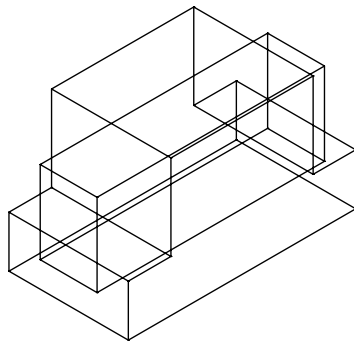

Figure 3-51 Model before subtraction
19. Move the cursor vertically upward. Enter **9** at the Command prompt and press ENTER; the box is moved, as shown in Figure 3-51.